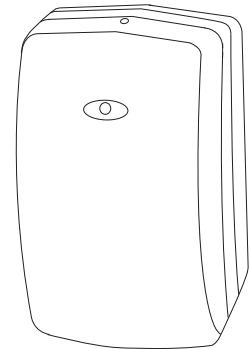

Figure 23. Glassbreak Sensor
**Glassbreak Sensors** Honeywell 5853 Glassbreak Sensors can be armed Stay, Away and Instant. Glassbreak Sensors have no entry delay when armed. (Figure 23)